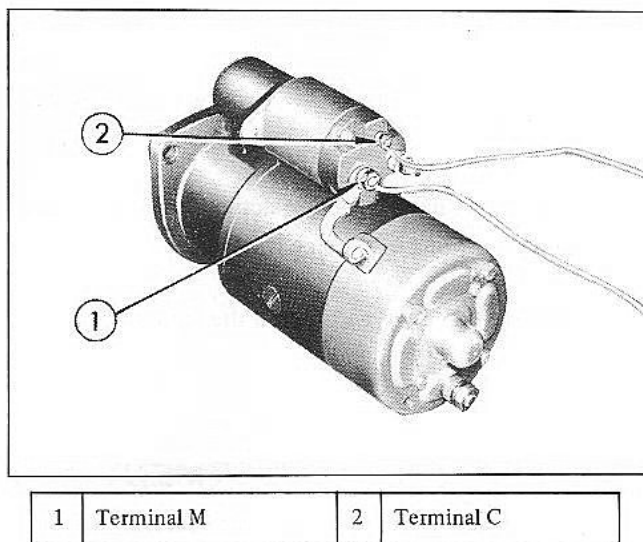

Fig. EE-58
1. Connect terminals M and S to a battery as shown in the Figure EE-58.